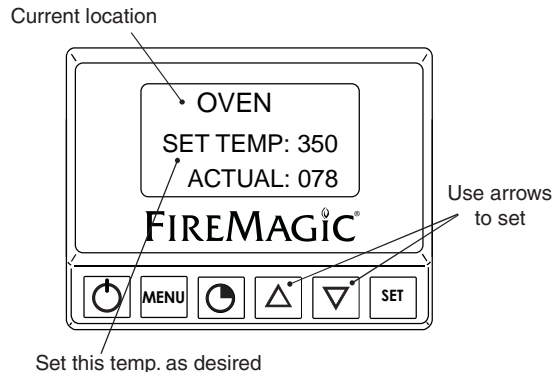

Fig. 13-3 Location temp. screen (oven shown)
2. The selected location's temperature screen will be displayed. Use the arrows to set the desired temp. The actual temp. will also be shown. (See Fig. 13-3)